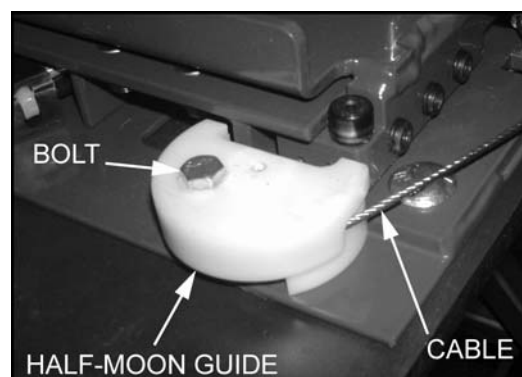

FIGURE 12
11. Refer to **FIGURE 12**. Remove bolt then remove half-moon guide to detach cable. Retain bolt and half-moon guide for installation.
3. Re-install top portion of the half moon guide with routed cable and fasten with bolt, as shown in **FIGURE 12**.